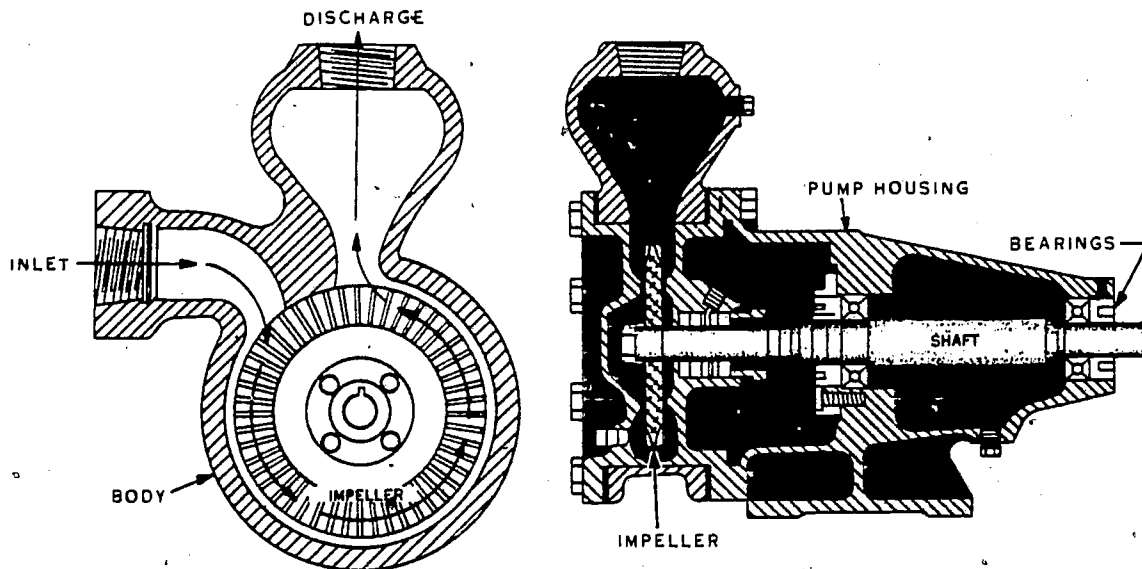

Figure 11. A centrifugal pump.
7. There are many different types of pumps that employ the centrifugal rotary principle. Of these, the turbine design is very suitable for use as a feed-water pump because of its high-discharge pressure. The discharge pressure must be sufficiently high to overcome the boiler operating pressure. The pump consists of an impeller shaft and housing with bearings, as shown in figure 11. The liquid enters the pump and is carried around the inside by the blades of the impeller and forced out through the discharge opening which connects with the boiler feed line.